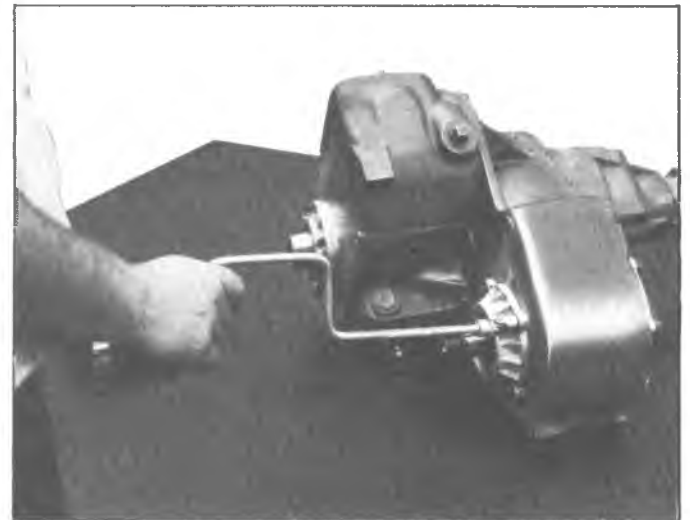

Fig. 5F—Removing Front Output Shaft Front Bearing Retainer
4. Remove bolts retaining front output shaft front bearing retainer (Fig. 5F). Remove bearing retainer and gasket from transfer case. Discard gasket.